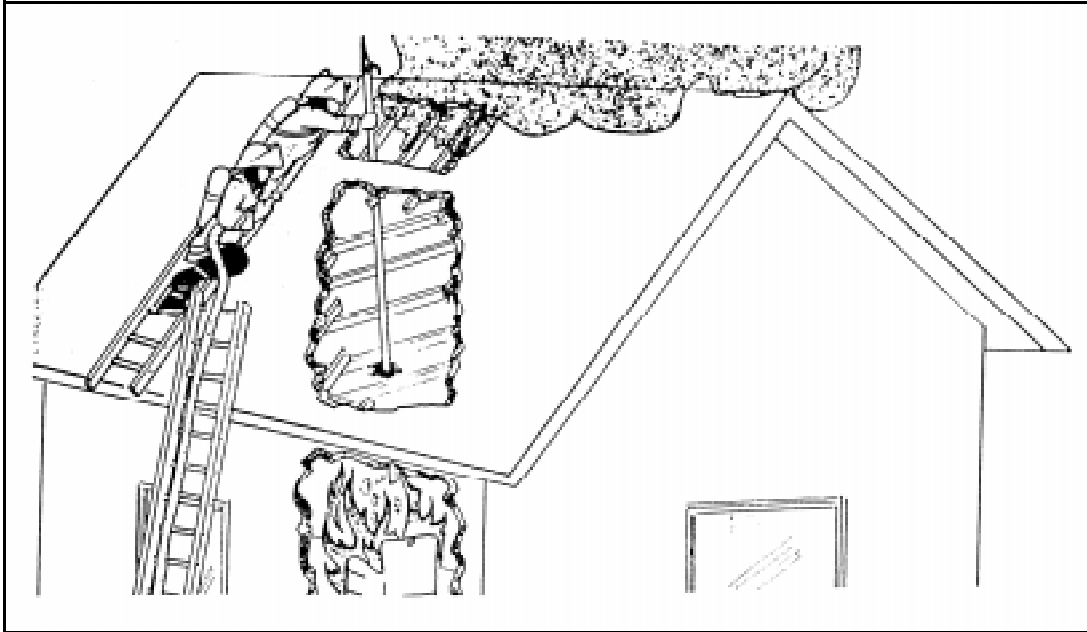

Figure 8-5. Opening a plastered ceiling
**8-41.** Use a pike pole to open plastered ceilings. Break the plaster and pull off the laths (Figure 8-5). Pull the metal and composition ceilings from the joists. Board ceilings are difficult to remove because the lumber resists when you jam a pole between the boards.